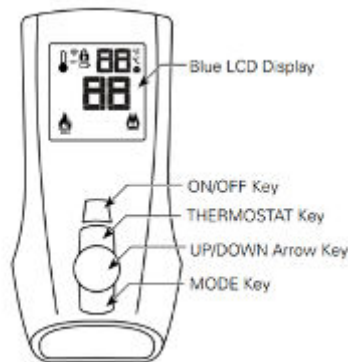

FIGURE 11
1. Insert the three (3) provided AAA batteries into the battery bay in the remote. Correctly align polarity (+/-).
3. Push the "ON" button on the remote (**Figure 11**). The control module will beep four (4) times to indicate acceptance of the remote's command. The system is now synchronized.
With the system in the “OFF” position, press the Thermostat Key and the Mode Key at the same time (**Figure 11**). Look at the LCD screen on the Remote to verify that a C or F is visible to the right of the Room Temperature display (**Figure 13**).
The IPI selection is the intended setting for the appliance operation. If remote is in CPI mode, it must be returned to the IPI mode. To turn it back the remote needs to be OFF. With the system in the OFF position, press the Mode Key (**Figure 11**) once to index to the CPI mode icon. Pressing the DOWN Arrow Key will return to IPI. A single “beep” will confirm the reception of the command (**Figure 15**).